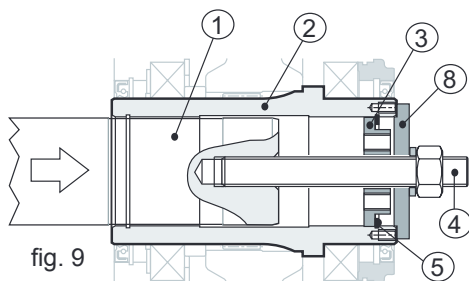

fig. 9
Now insert the backplate (pos. 3) then the inner retaining ring (pos. 5) into their relative seats and tighten the threaded bar to bring the two shafts tight against each other (see Fig. 9).